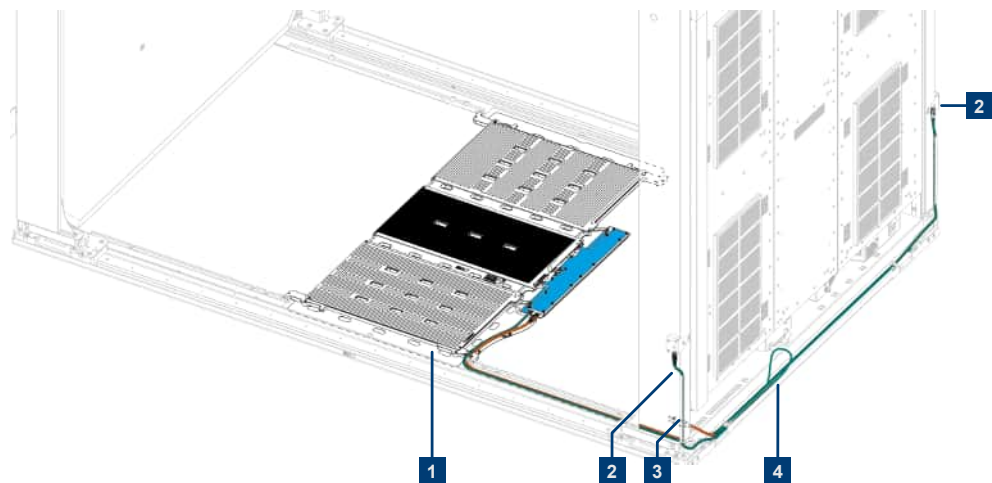

Figure 4-5: Connecting the cables to the primary panel
2. Route the cables (power supply and light barrier control) through the cable duct as shown in Figure 4-5.